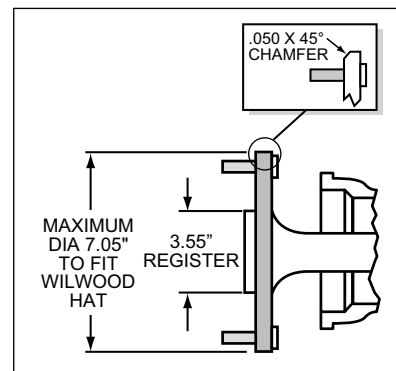

Figure 2. Axle Flange Maximum Dimension
- Axle housing flange registration diameter, Figure 2.
- Axle center registration diameter is 3.55", Figure 2.
- Maximum axle flange diameter must be no larger than 7.05" w/.050" x 45° chamfer (Figure 2).